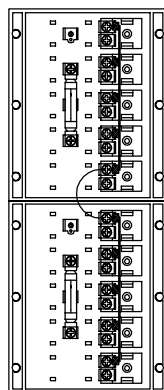

Fig.2
If it is necessary to connect 2 or more extension modules, the push button common must be connected between all modules (see Fig.2)
Quando è richiesto l'utilizzo di 2 o più moduli pulsantiera, il comune pulsanti deve essere collegato tra tutti i moduli (vedi Fig.2)
- a. Fix box Art.882 (1) to wall at 165-170 cm. from ground level (see Fig.2) by using the four expansion type screws (3) provided;
- b. Fix hinge (6) by using the two screws provided (7).Continue as from (d) to (m) of flush mounting instructions .